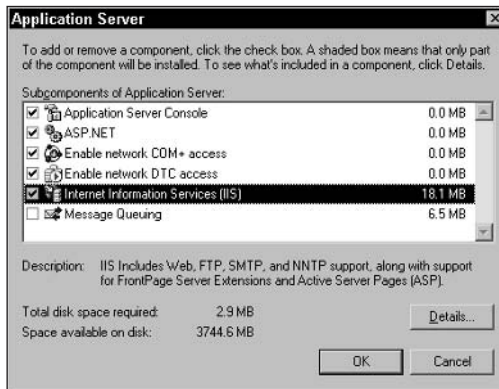

Figure 18-4: After selecting the ASP.NET check box, highlight Internet Information Services (IIS) so that you can click Details.
4. Select the Internet Information Services (IIS) option (see Figure 18-4), and click the Details button.